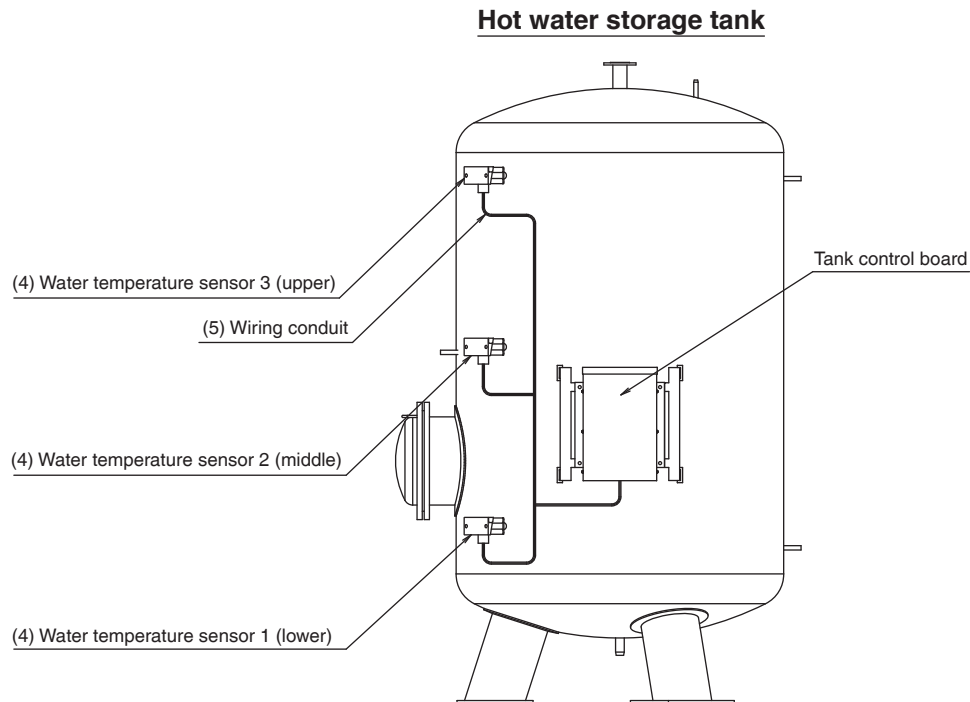

Fig. 7
(5) Use wiring conduit from the tank control board to the water temperature sensor storage box.
- Refer to Fig. 7 for the layout of the wiring conduit.